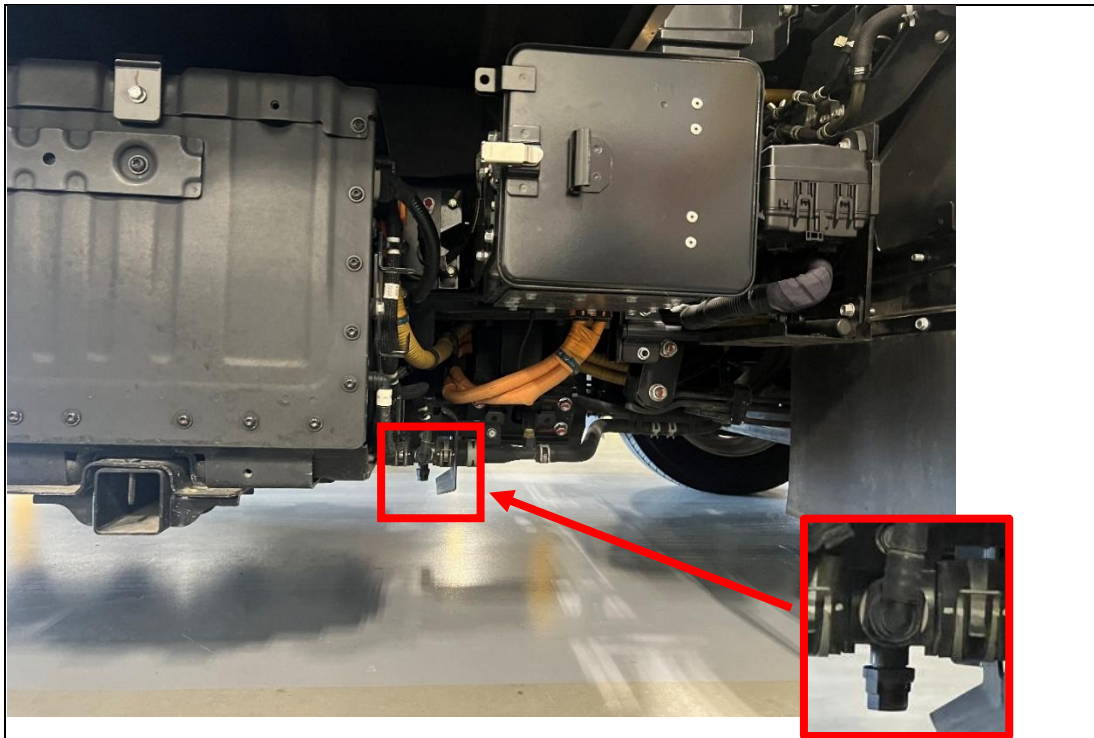

Figure 5
7. Place a coolant drain pan under the HV battery coolant drain cap just behind the charging box. (See Figure 5.)